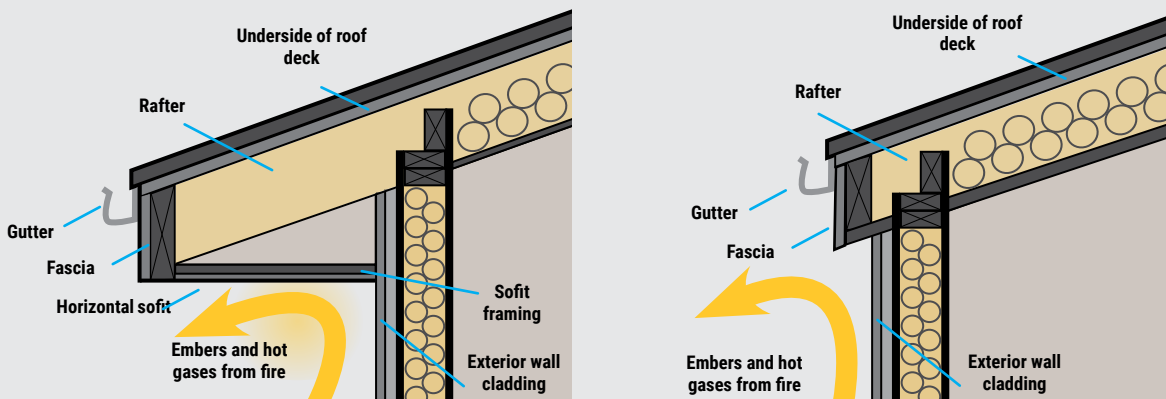

Figure 8: An eave with essentially no overhang versus an enclosed overhang with horizontal soffit
- Avoid sloping soffits because they create pockets that can trap hot gasses. Eaves with short overhangs and flat soffits are the recommended option (see figure 8).